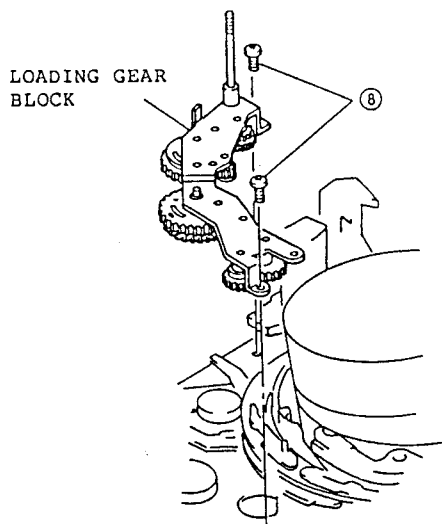

Fig. 2-84
8. Remove two (2) screws holding the loading gear block. (See Fig. 2-84)
(See Fig. 2-84)